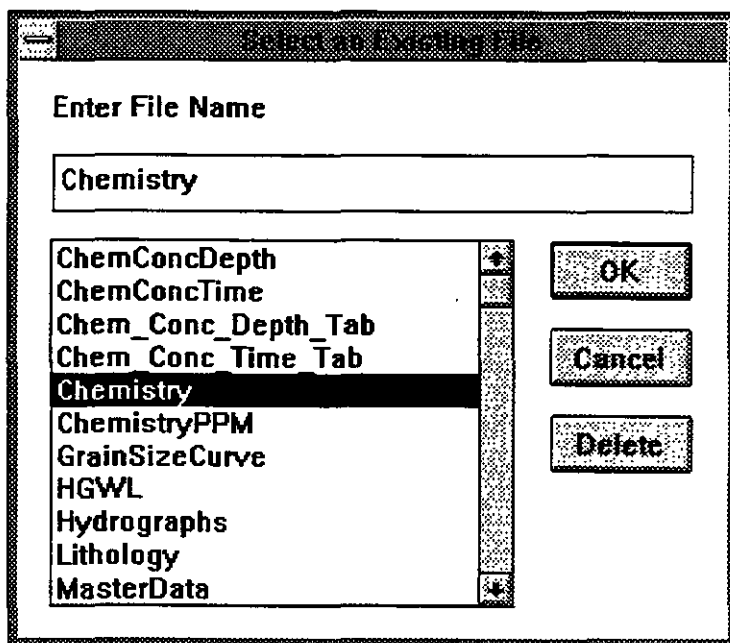

Figure 2-8
5. Click on **Chemistry**. It will be highlighted, and the name **Chemistry** typed on the command line, as shown in Figure 2-8. Press Enter, or click on the com-